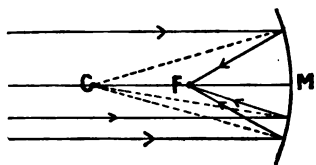

Fig. 198.
- I. When rays parallel to the principal axis fall upon the mirror as in Fig. 198.